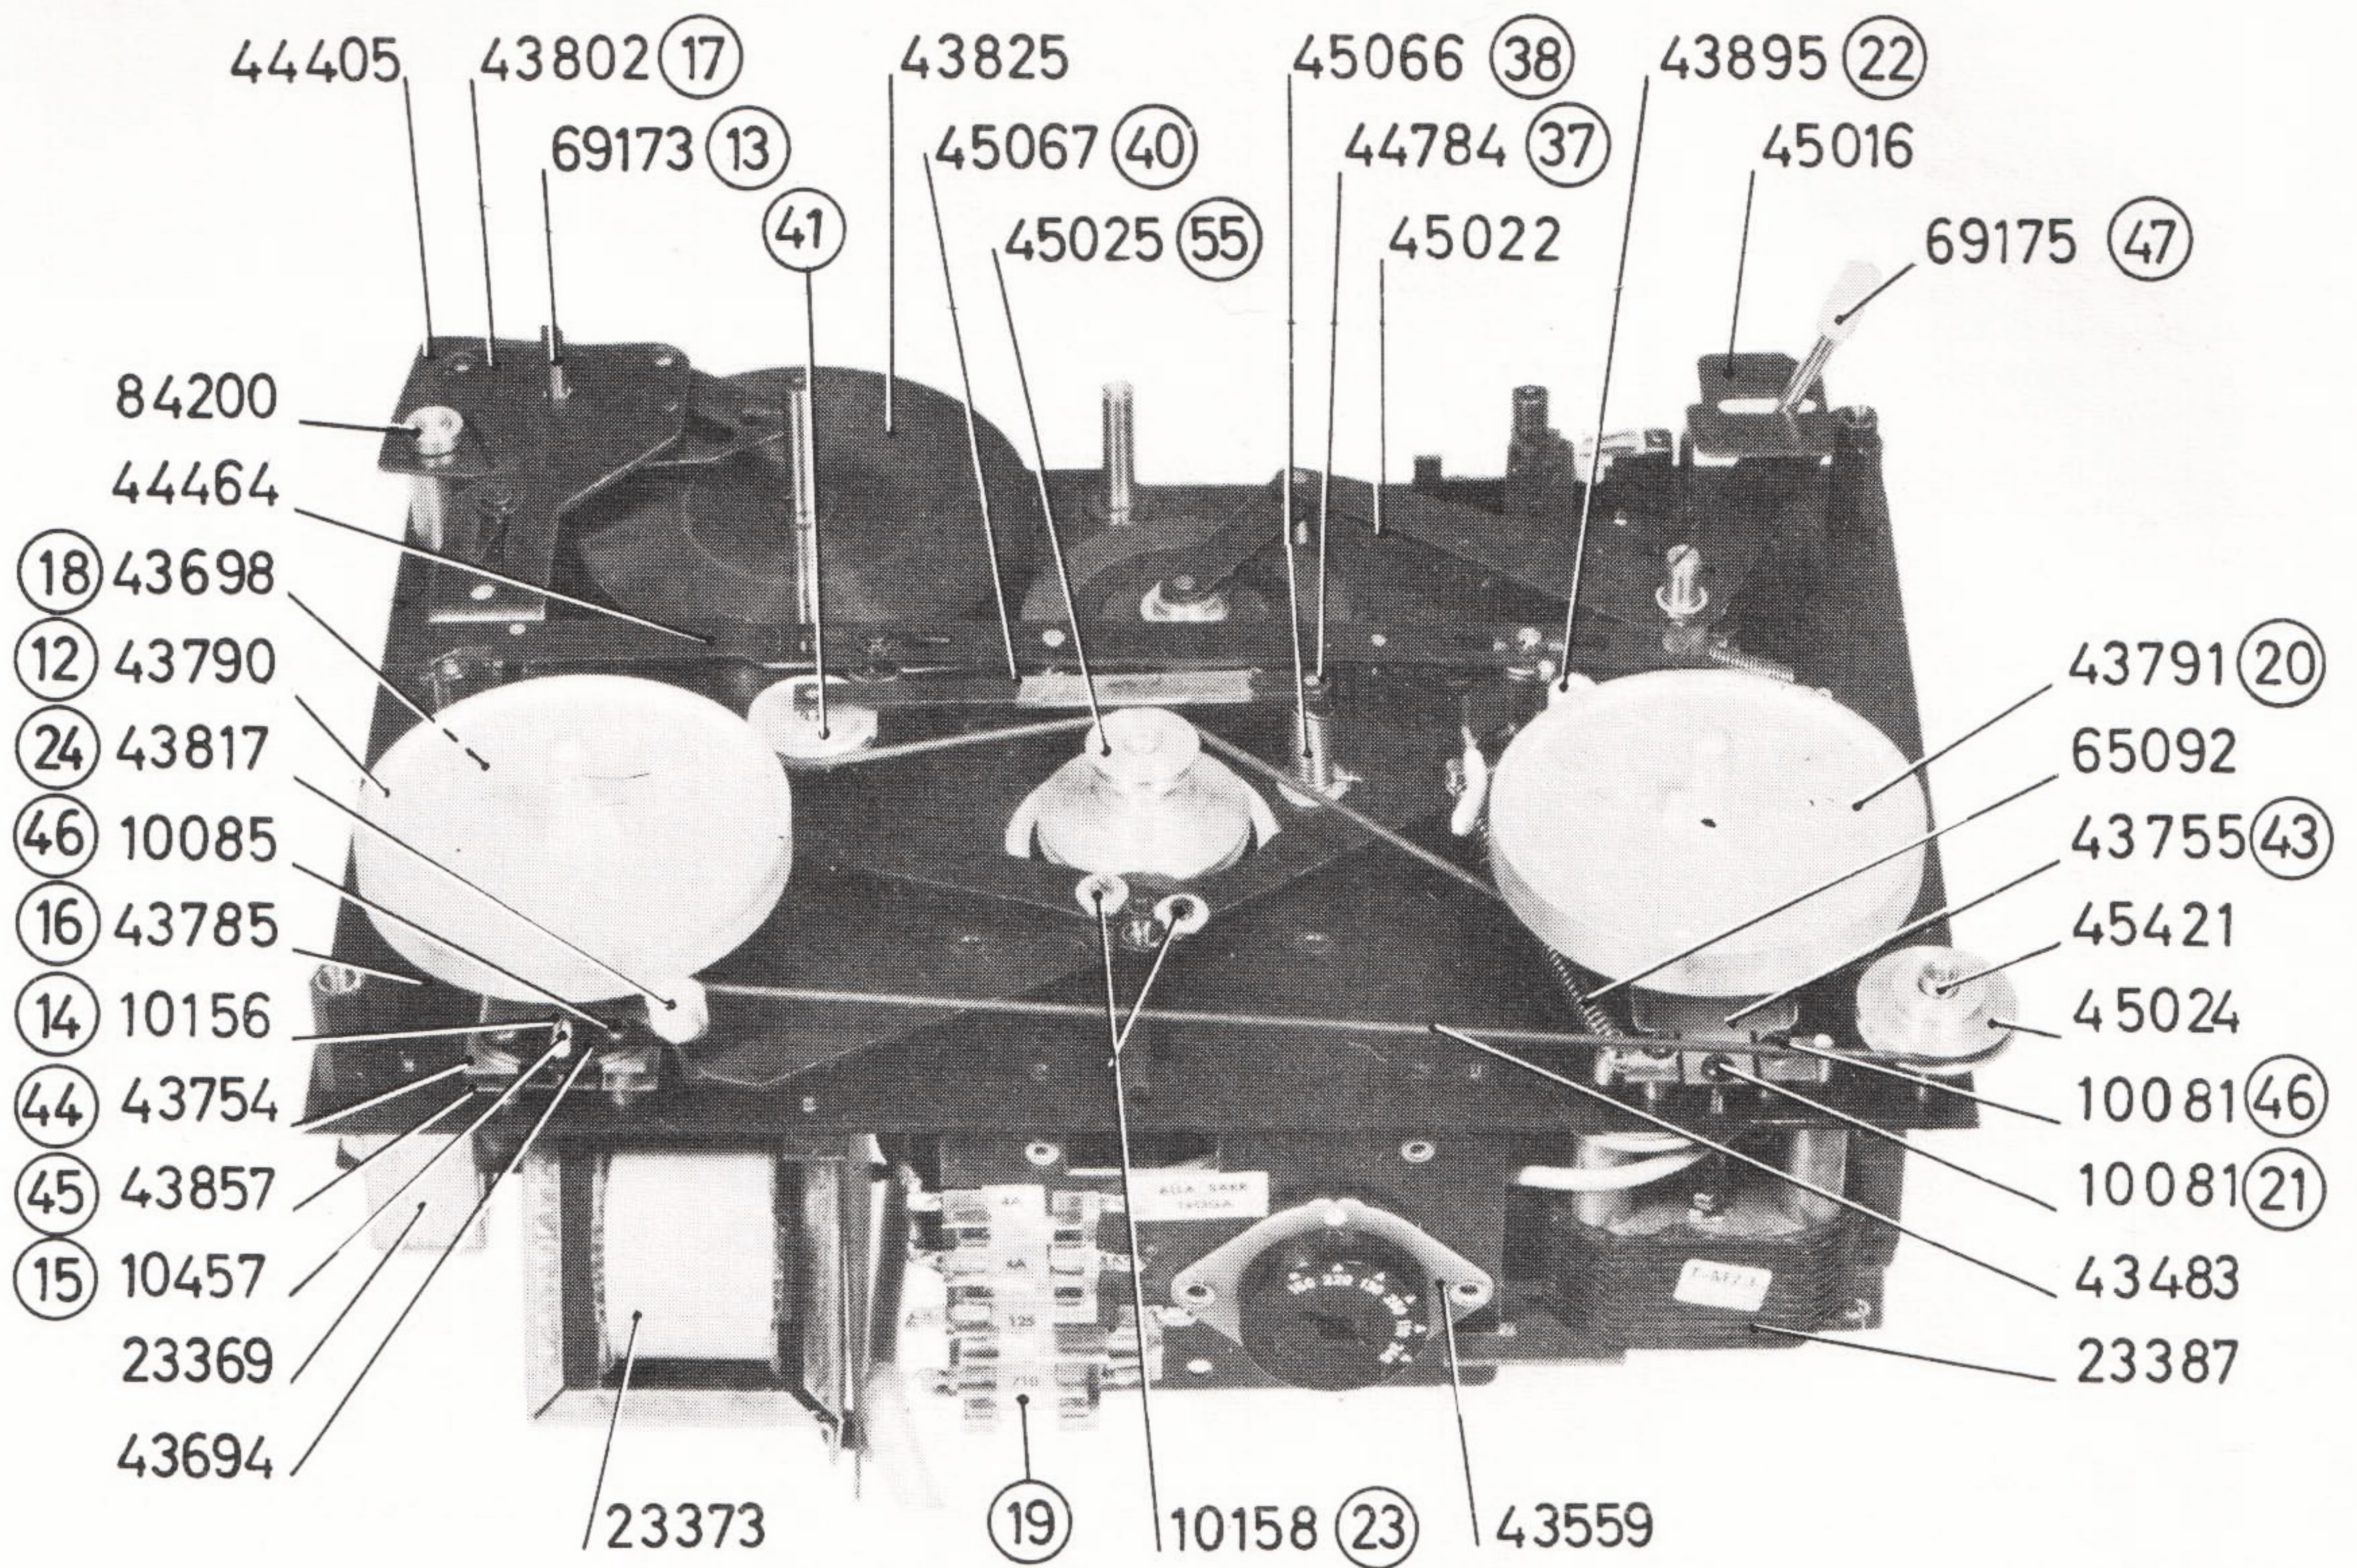

Fig. 3
FÖR ATT JUSTERA DETTA ANVÄNDES EN TOMSPOLE MED EN INNERDIAMETER AV 57 MM, PÅ VILKEN ÄR UPPLINDAD EN BIT SKALLINA. DENNA SPOLE PLACERAS PÅ BANDSPELARENS HÖGRA SPOLHJUL (12), VAREFTER SKALLINANS FRIA ÄNDE FÄSTES I EN FJÄDERVÅG. FÖR DEN HÖGRA SPAKEN (13) TILL LÄGET MÄRKT MED EN PIL, JUSTERA MED JUSTERSKRUVEN (14) TILLS VÅGEN VISAR 40 ± 5 GRAM. FÖR SEDAN SPAKEN (13) TILL HÖGER, MÄRKT MED TVÅ PILAR, JUSTERA MED JUSTERSKRUVEN (15) TILLS VÅGEN VISAR 130 ± 10 GRAM. SE FIG. 3.
B) KONTROLLERA ATT ETT AVSTÅND PÅ 0,5 - 0,7 MM FINNES MELLAN SPOLHJULETS (12) FRIKTIONSFILT OCH REMSKIVANS (16) ÖVRE FRIKTIONSYTA. FÖLJANDE JUSTERING GÖRES: PÅ MANÖVERARMEN (17) FINNES EN JUSTERMUTTER (18). AVSTÅNDET ÖKAS GENOM ATT SKRUVA UPP JUSTERMUTTERN. STARTSPAKEN (13) SKALL STÅ I NOLLÄGE, DÅ DENNA JUSTERING UTFÖRES. SE FIG. 3.
C) FINSÄKRINGEN 710 mA (19) UTLÖST. SE FIG. 3.
FÖR DEN HÖGRA SPAKEN (13) TILL LÄGET MÄRKT MED TVÅ PILAR ÅT VÄNSTER, JUSTERA MED JUSTERSKRUVEN (21) TILLS GRAMVÅGEN VISAR 130 ± 10 GRAM. SE FIG. 3.
A) STOPPBROMSARNA JUSTERAS SÅ, ATT DÅ STARTSPAKEN (13) STÄLLES I LÄGE SNABBT FRAM ELLER SNABBT BACK SKALL DEN VÄNSTRA BROMSFILTEN (22) LIGGA 0,1 - 0,3 MM FRÅN YTTERKANTEN PÅ VÄNSTRA SPOLHJULET (20). DETTA AVSTÅND JUSTERAS GENOM ATT LOSSA DE BÅDA JUSTERSKRUVARNA (23). FÖR SEDAN STARTSPAKEN (13) TILL STOPPLÄGE, VRID VÄNSTRA SPOLHJULET (20) EN ANING MOTURS. VAREFTER DEN HÖGRA BROMSFILTEN (24) JUSTERAS (GENOM BOCKNING), SÅ ATT EN BROMSKRAFT ERHÅLLES PÅ HÖGRA SPOLHJULET, SOM NÅGOT UNDERSTIGER BROMSKRAFTEN PÅ DET VÄNSTRA SPOLHJULET. SE FIG. 3.
VID JUSTERING AV REMSTRÄCKARENS LAGERPELARE (37) SKALL FJÄDERN (38) VRIDAS I ETT SÅDANT LÄGE ATT DESS ÖVRE ÖGLA ÄR RIKTAD MOT MONTERINGSPLÅTENS (39) FRAMKANT, VAREFTER LAGERPELAREN FASTDRAGES. EFTER PÅSÄTTNING AV SVÄNGARMEN (40) MÅSTE DENNA JUSTERAS I HÖJDLED, (GENOM BOCKNING) SÅ ATT ETT AVSTÅND PÅ 0,75 - 1 MM ERHÅLLES MELLAN REMSTRÄCKARRULLENS (41) UNDERSIDA OCH SVÄNGARMENS LÅSKLAMMER, DÅ BANDSPELAREN KÖRES I AVSPELNINGSLÄGE. OBS! OM SVÄNGARMSRULLEN EJ GÅR FRI FRÅN GUMMIBUSSNINGEN PÅ MANÖVERARMENS FÄSTPELARE (42), MÅSTE SVÄNGARMSFJÄDERN SPÄNNAS YTTRELLIGARE. SE FIG. 3 OCH 4.
MANÖVERFJÄDRARNA (43,44 OCH 45) MONTERAS SÅ ATT FJÄDRARNAS RÖRELSER I HÖJDLED EJ HINDRAS GENOM ATT FJÄDRARNA NÖTER MOT SPOLHJULSNAVENS LAGERBUSSNINGAR D.V.S. ATT FJÄDRARNA MÅSTE HÅLLAS I ETT NEUTRALLÄGE DÅ DERAS FÄSTSKRUVAR (46) ÅTDRAGES. SE FIG. 3.
MOTORNS DRIVRULLE (55) JUSTERAS I HÖJDLED SÅ ATT DÅ MANÖVERSPAKEN (47) STÅR I LÄGE 1 7/8" SKALL 1,5 MM AVSTÅND FINNAS MELLAN UNDER KANTEN AV MELLANHJULETS GUMMIBANA OCH ÖVRE KANTEN AV DRIVRULLENS 3 3/4"-DRIVBANA. JUSTERING AV DRIVRULLENS HÖJDLÄGE GÖRES GENOM ATT ROTORN HÅLLES STILLA, UNDER DET ATT DRIVRULLEN VRIDES MOTURS, SAMT I DIGT SOM DEN HÖJES ELLER SÄNKES EFTER BEHOV. SE FIG. 3.